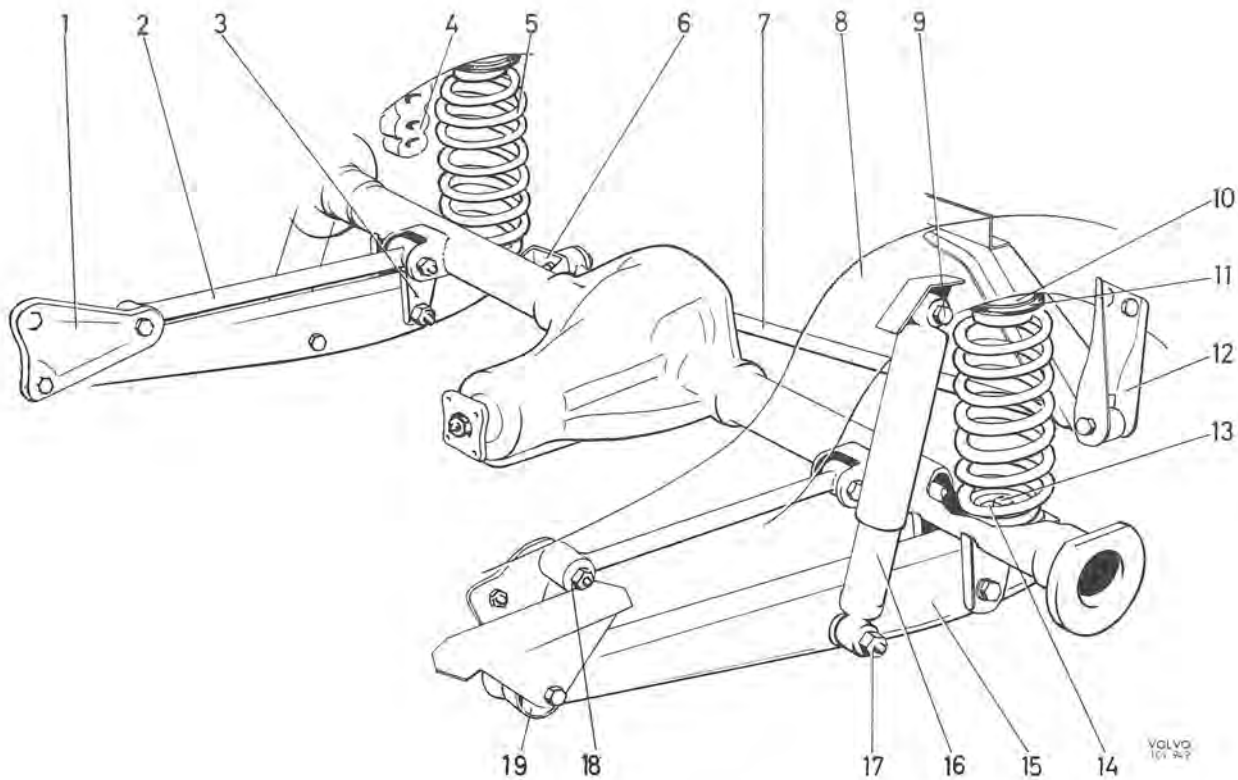

Fig. 7-5. Rear axle suspension
The upper ends of the rear springs (5, Fig. 7-5) are bolted to the rear side-members (8) and at the lower ends to the support arms (15) behind the rear axle. Rubber buffers (4) fitted on the rear side-members take up any impacts from loading on the springs.
3. Remove the upper attachment (9, Fig. 7-5) for the shock absorber. Lower the jack carefully and remove the spring.
The rear axle is attached to the body through two flexibly mounted support arms (15, Fig. 7-5). Forces acting longitudinally are taken up by two support stays (2) and the lateral forces are absorbed by a track bar (7). The support arms are fore-mounted in rubber bushes (19). The support stays and track bar are attached to the rear axle frame through the rubber bushes.
3. Remove the screw on the support arm at the rear axle bracket (3, Fig. 7-5). Remove the front screw and take off the support arm.
2. Remove the nuts at both brackets (6 and 12, Fig. 7-5). Remove the track bar from the bracket mounted on the rear axle. Remove the screw at the bracket (12) attached to the frame and take off the track bar.